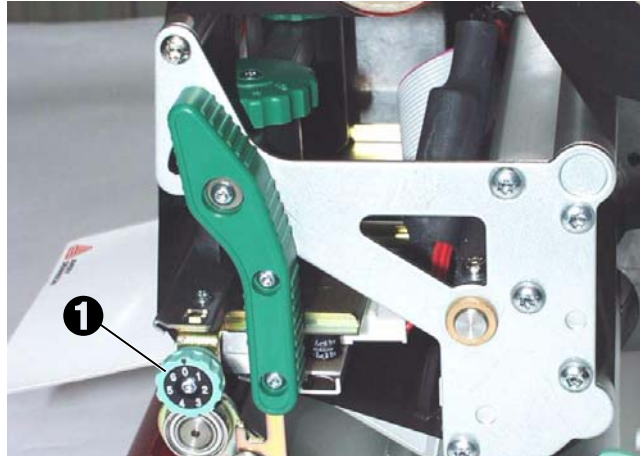

Fig. 1: The adjusting wheel for the printhead support.
1. Open the pressure lever (Fig. 1).
2. Push both ribbon rolls onto the ribbon reels as shown (Fig. 1).